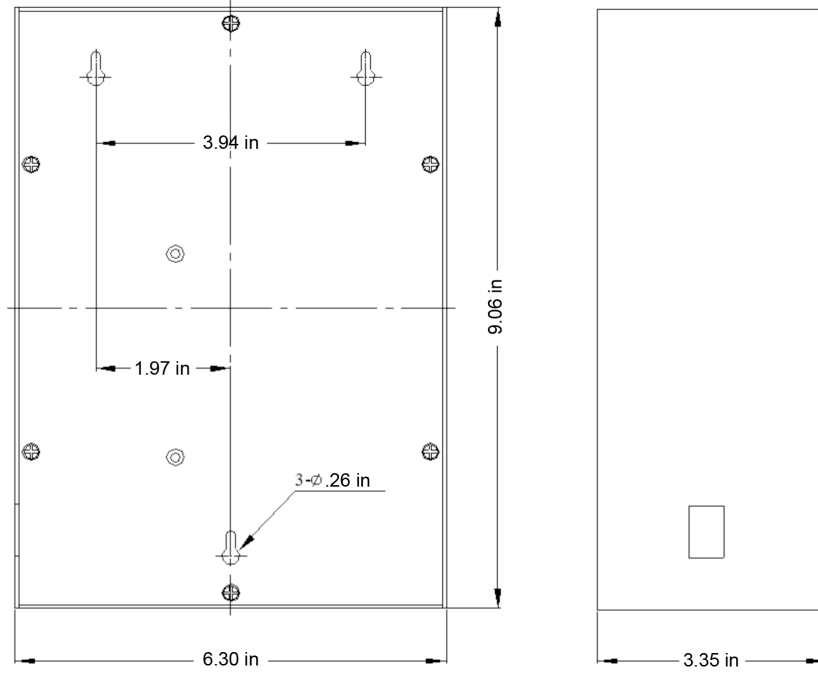

Figure 3
1. Remove the five (5) screws from back plate.
3. Insert three flat head screws into the three holes that will hold and firm up the alarm box. See Figure 3.